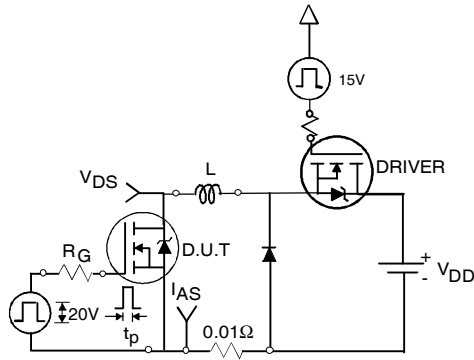

Fig 12a. Unclamped Inductive Test Circuit
- ④ Pulse width $\leq 400\mu s$; duty cycle $\leq 2\%$.
- ⑤ $C_{oss\text{ eff.}}$ is a fixed capacitance that gives the same charging time as C_{oss} while V_{DS} is rising from 0 to 80% V_{DSS} .
- ⑥ Limited by T_{Jmax} , see Fig.12a, 12b, 15, 16 for typical repetitive avalanche performance.
- ⑦ When mounted on 1" square PCB (FR-4 or G-10 Material).
3. Equation below based on circuit and waveforms shown in Figures 12a, 12b.